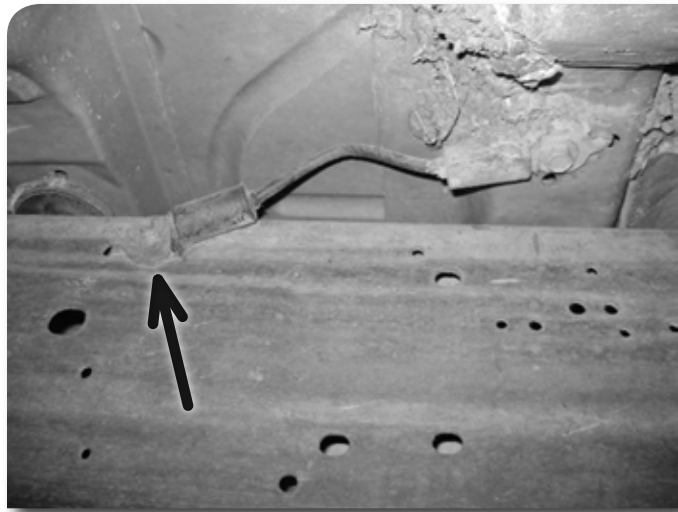

Figure 12
23. Remove the bolt that attaches the cab safety cables to the frame located under the driver's and passenger's doors. Figure 12 They will be relocated after lifting. Save bolts.